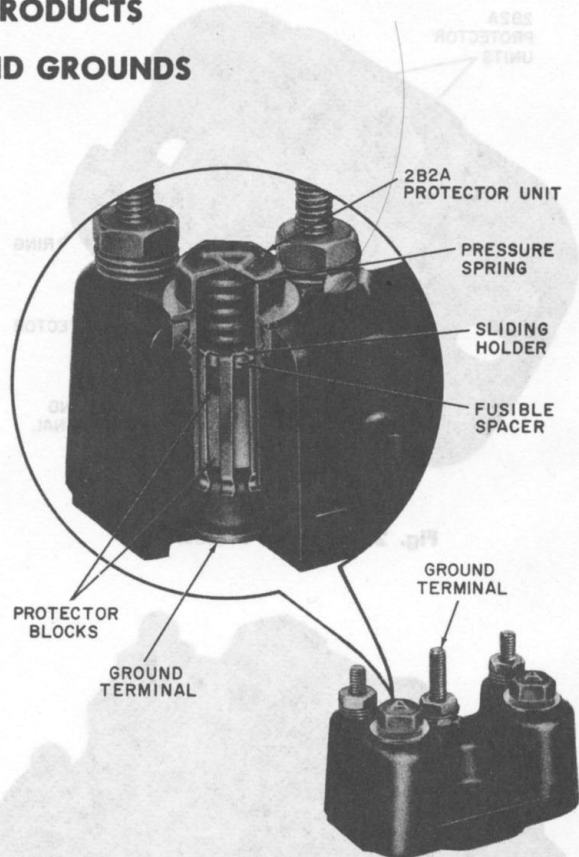
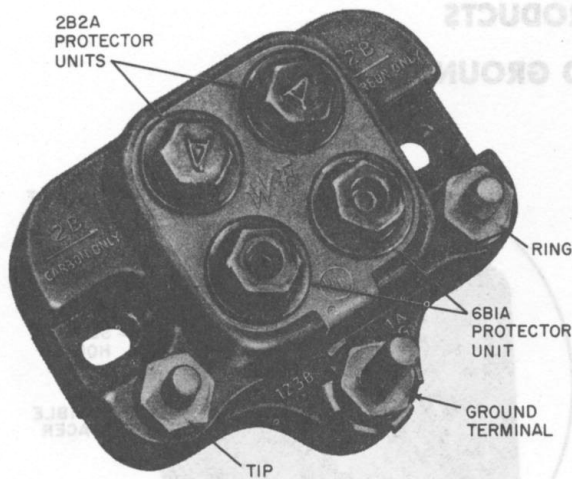
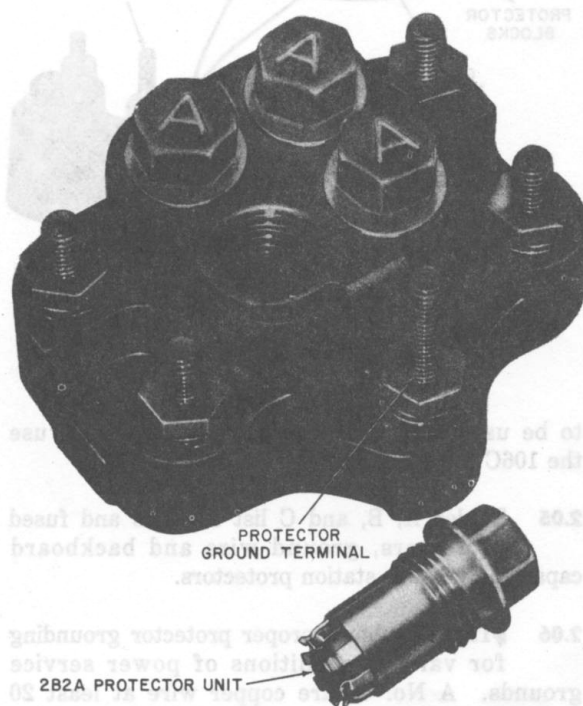

Fig. 1—123A1A Protector
Fig. 2—123B1A Protector
Fig. 3—128A1A-2 Protector
2.01 The 123A1A (Fig. 1), 123B1A (Fig. 2), and 128A1A-2 (Fig. 3) protectors provide protection against abnormal voltage and current for one or two pairs of wires at subscriber's premises. The 123B1A is recommended for use in areas where lightning activity results in high maintenance costs.